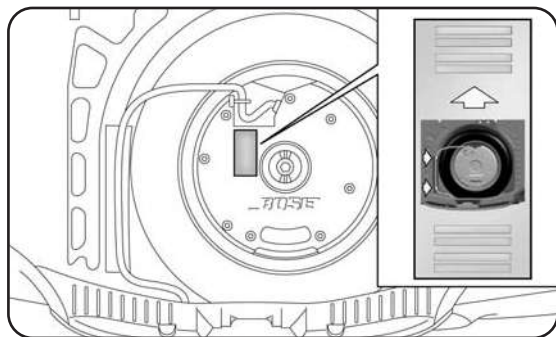

fig. 9
- reposition the container and place the subwoofer on top of it, taking care to position it according to the instructions on the container (fig. 9) so that the arrow on the spacer is pointing in the direction of travel.